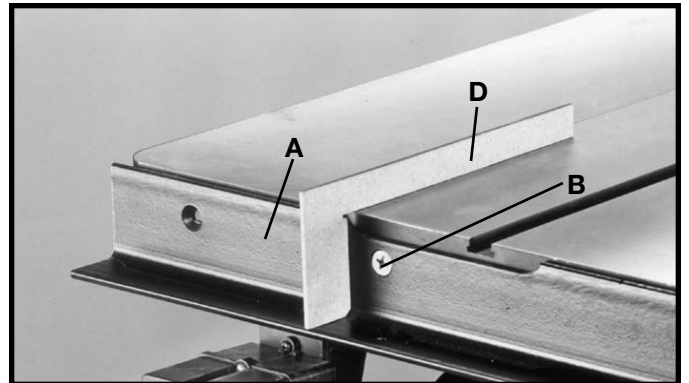

Fig. 93
2. Using template (D) Figures 93 and 94, to check and adjust front rail at both ends of the saw table as shown, to make sure rail (A) is parallel with table surface and tighten rail mounting hardware (B). **IMPORTANT: Template (D) must be on the saw table when checking, not on extension wing.**